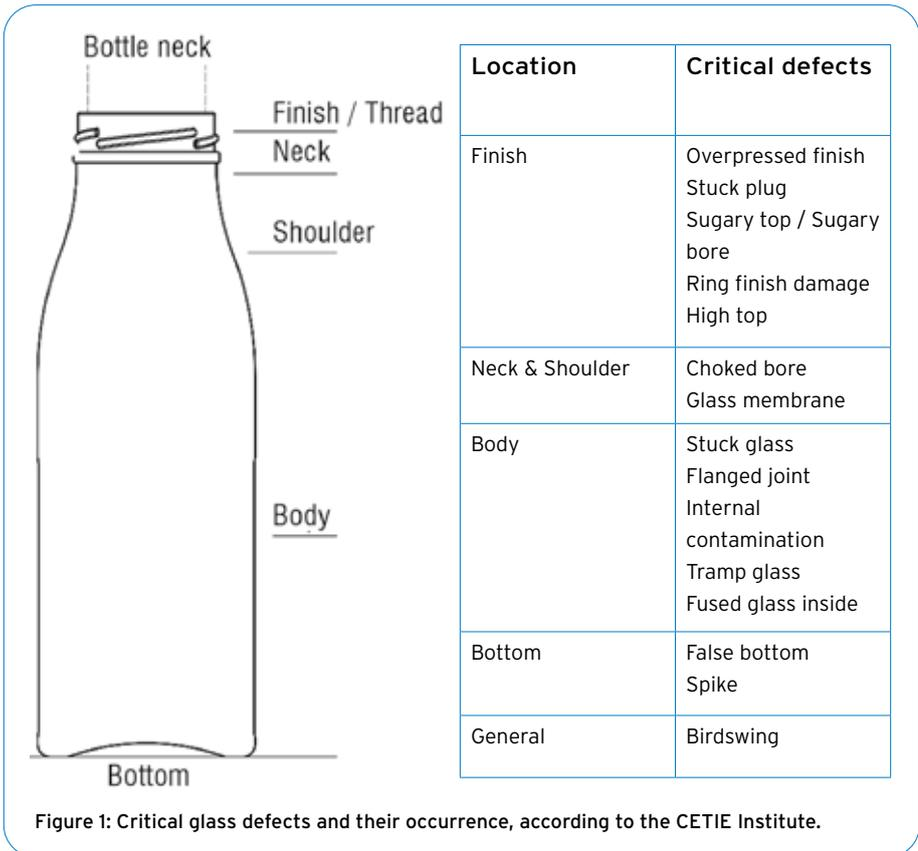

Figure 1: Critical glass defects and their occurrence, according to the CETIE Institute.
Critical defects are best classified by the location of the defect. The CETIE Institute (3) gives a clear specification of critical defects that can occur along the glass container (from the top to the bottom), see Figure 1. There is an accumulation of faults in the upper area of the container, which, for example, is manufactured with a thread structure for the closure.